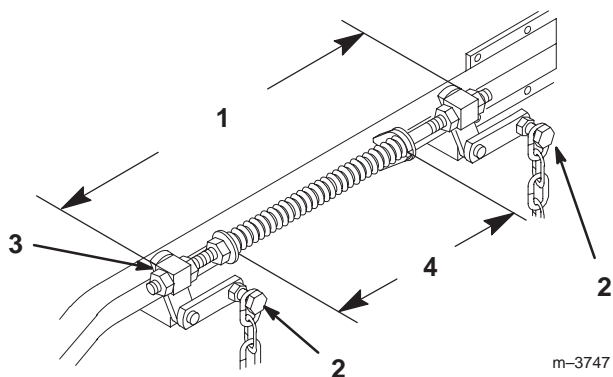

Figure 66
6. Loosen the four top chain bolts in slots. Check the length of the rod/swivel assemblies. Distance from outside of rear swivel to outside of front swivel should be 19–17/32 inch (496 mm) (Fig. 66). Make sure that all four swivels move freely in holes.
2. Springs are compressed so the distance between the two large washers should be 11 inch (279 mm) (Fig. 66).
3. Adjust by turning nut in front of each spring (Fig. 66). Clockwise will shorten spring; counter-clockwise will lengthen spring.